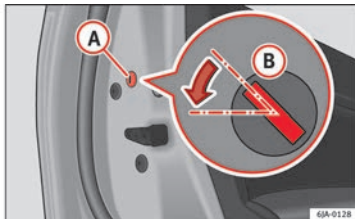

Fig. 4 Rear door: manual locking
- Remove the cap **A**»» Fig. 4.